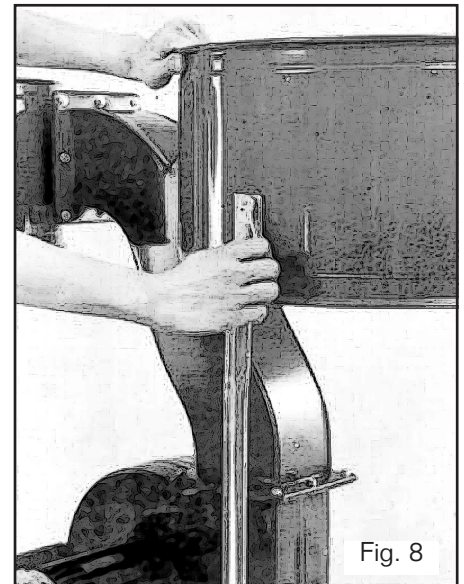

Fig. 8
Now install the two collector supports (F) as shown on fig. 7 and fig. 8.